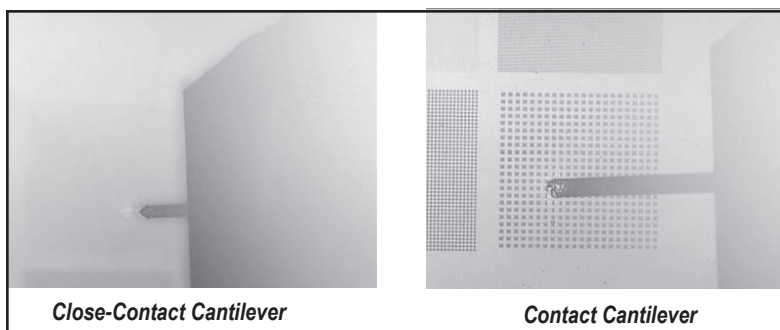

Figure 3.12: Contact vs. Close-Contact Probes
- The objective’s field of view may need to be adjusted in X-Y, using the adjust screws. This is usually necessary when switching between a contact and close-contact probe, due to the difference in size. You can confirm that you have installed a contact cantilever by noting the difference in length between contact and close-contact cantilevers, as shown in Figure 3.12.